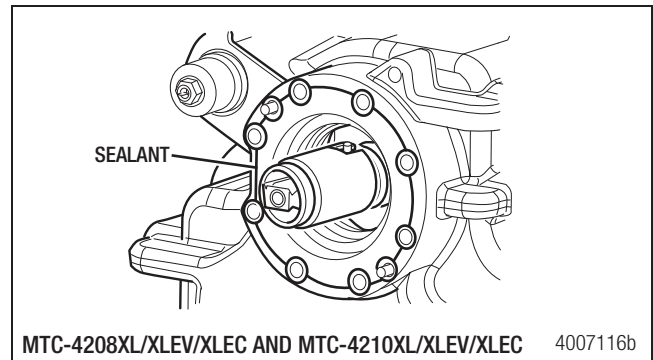

Figure 7.43
- Apply a 0.125" (3.175 mm) bead of Loctite® 518 sealant around the rear housing face. Figure 7.43.